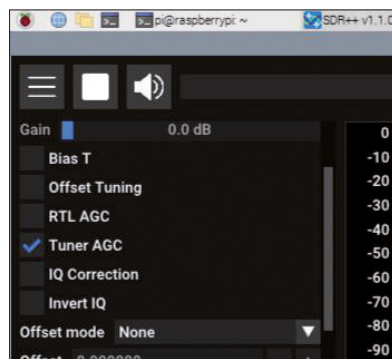

Figure 9.4: Enable Tuner AGC.
- Click **Source** and click to enable **Tuner AGC** (Figure 9.4).